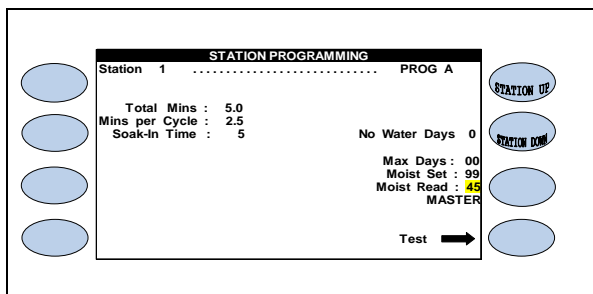

Figure 5.39
- MOIST READ:** This entry is non-changeable. As a moisture sensor reading goes above the determined moisture set point, the controller stops irrigation. When the moisture level reading drops below the moisture set point. The controller automatically begins to irrigate more of the programmed time to where it may water the full programmed amount (Figure 5.39).